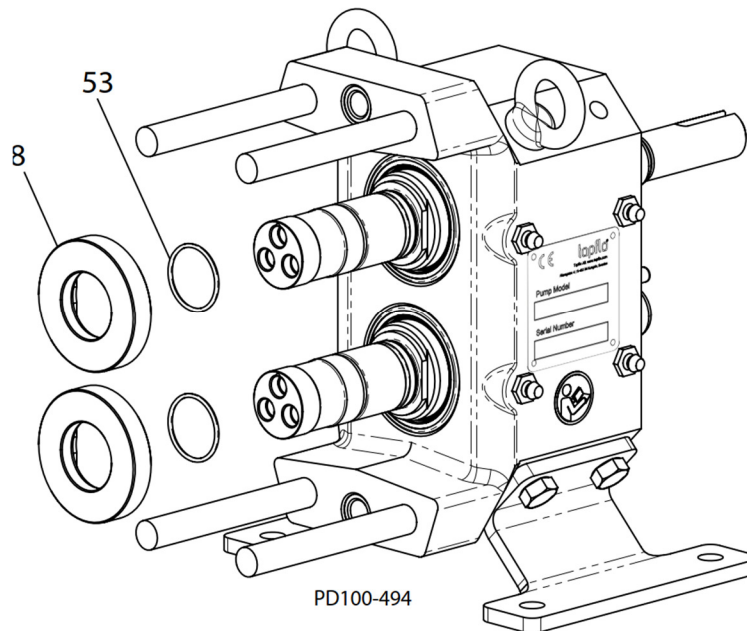

Fig. 52: Shaft Seal Installation
1. Install the seat O-rings (Figure 52, item 53) into the rear groove in the shaft.
2. Apply a compatible lubricant to the O-rings and install the seal seats (Figure 52, item 8). Align the flats in the seal seats with the flats on the shafts and seat them firmly against the shaft shoulder.